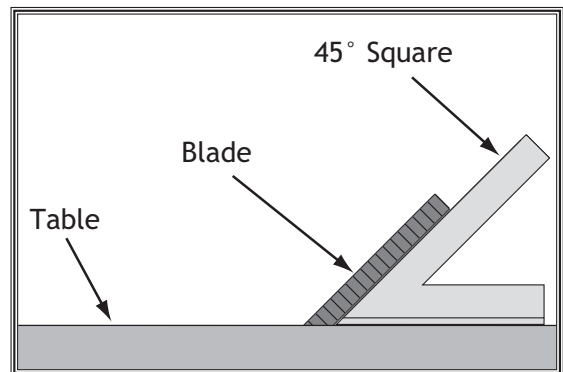

Figure 96. Checking blade at 45°.
3. Place a 45° square against the table and blade so it contacts the blade evenly from bottom to top, as shown in **Figure 96**. Make sure a blade tooth does not obstruct the placement of the square.